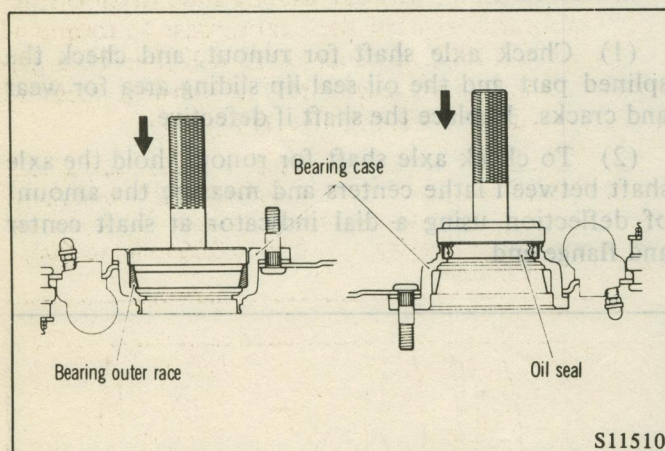

Fig. 9 Driving in the Bearing Outer Race and Oil Seal
(1) Apply grease to outer surface of bearing outer race and to lip of oil seal (outer). Drive them into bearing case as shown. (Fig. 9)